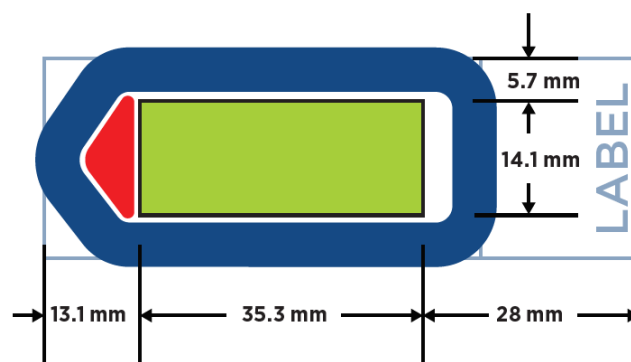

Figure 3: Slide dimensions
1. Tissue sections should be **5 μm** thick and mounted on **Apex BOND Adhesive slides**. Tissue sections must **fit within the white dots** marking the boundary on the Apex BOND slides, and be within the **Scan Area** (shown in green) (see Figure 3). Sections can be no larger than 35.3 mm long by 14.1 mm wide and should not overlap the slide gasket (shown in blue) or the Tip Calibration area (shown in red). If mounting multiple sections per slide, ensure that tissues are at least 2–3 mm apart and still fit within the Scan Area.